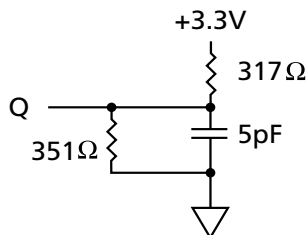
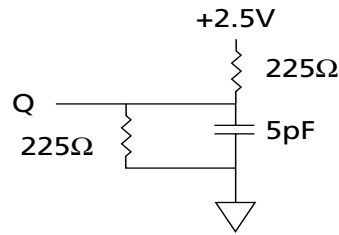

Figure 2
Figure 4
4. The load used for V_{OH}, V_{OL} testing is shown in Figure 2 for 3.3V I/O and Figure 4 for 2.5V I/O. AC load current is higher than the stated DC values. AC I/O curves are available upon request.
3. This parameter is measured with the output loading shown in Figure 2 for 3.3V I/O and Figure 4 for 2.5V I/O.